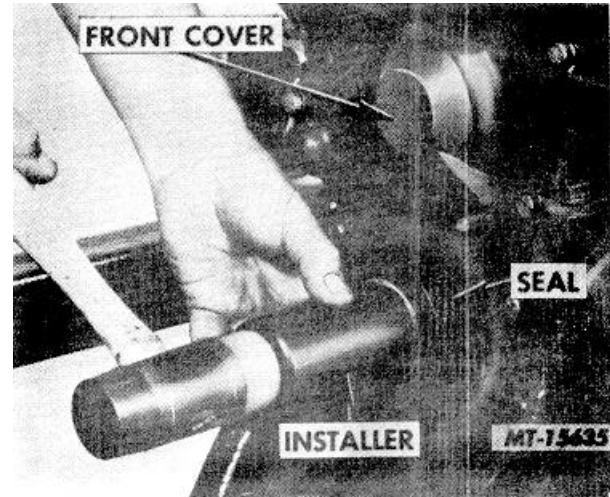

Fig. 169 Installing Engine Front Cover Oil Seal
- c. Place installer over end of crankshaft and drive seal into cover (Fig. 169). Seal is properly located when inner shoulder on tool contacts machined surface of front cover.